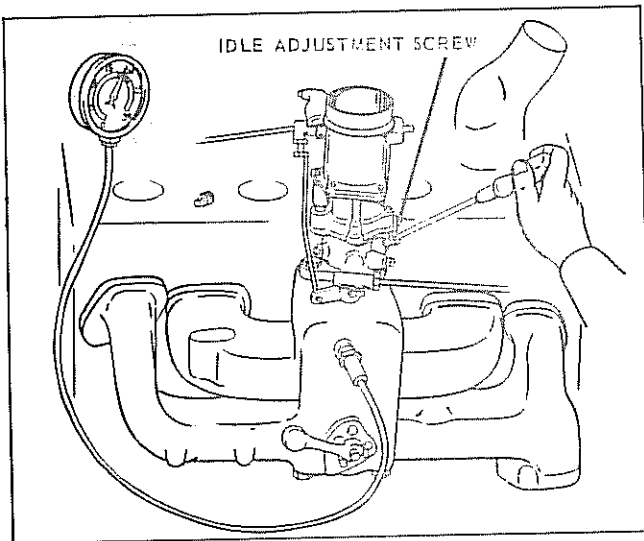

Figure 5. Vacuum Test
- a. Tighten manifold stud nuts to prevent leakage at gasket, and remove pipe plug from intake manifold. Attach vacuum gauge in pipe plug opening, figure 5.